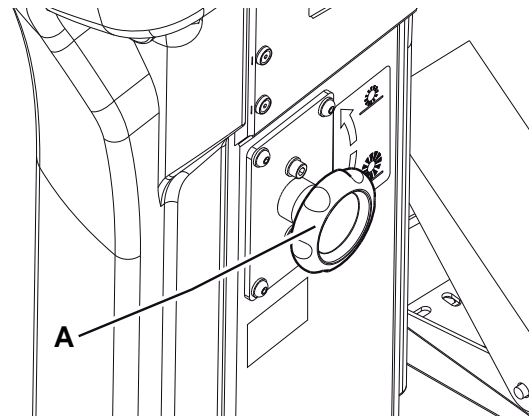

Figure 4
2. Turn the knob (A, Fig. 4) as shown below:
- To decrease the print width, lift the broom with the lever (80) and turn the knob clockwise.